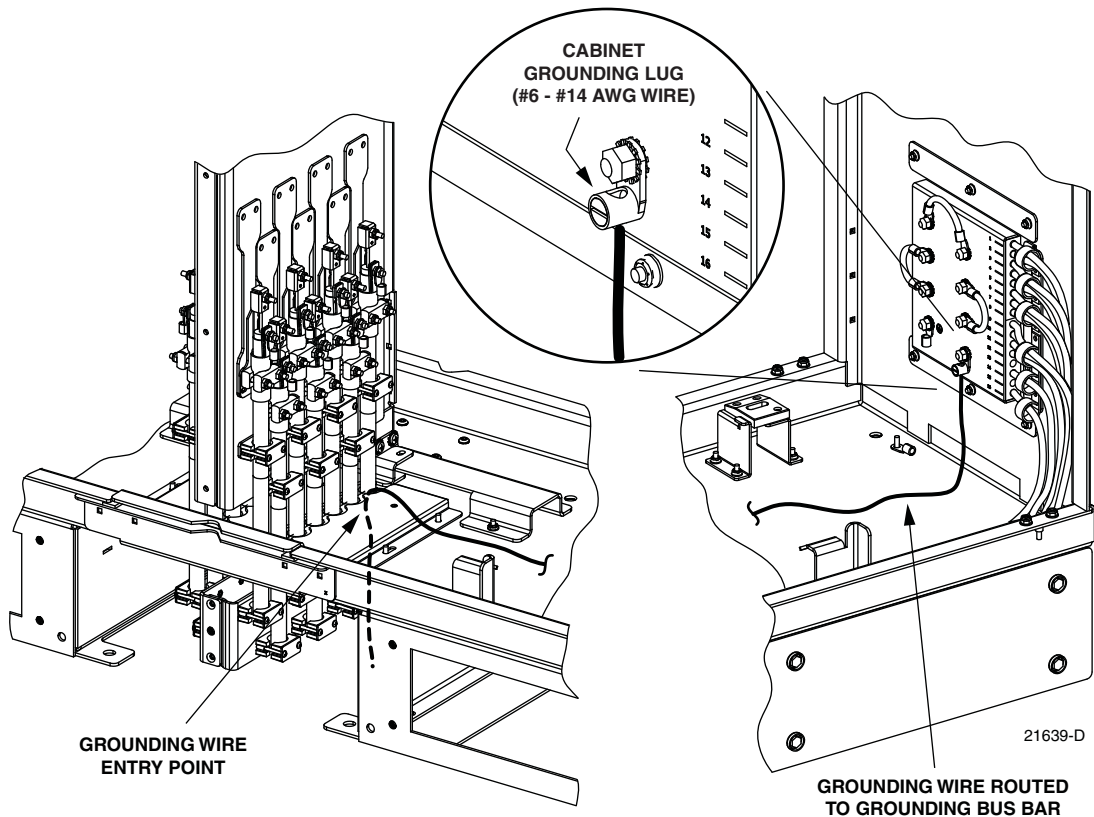

Figure 14. Grounding Wire Connection To Cabinet
2. Working through the back access opening, insert the grounding wire through the flexible membrane at the point indicated in Figure 14.